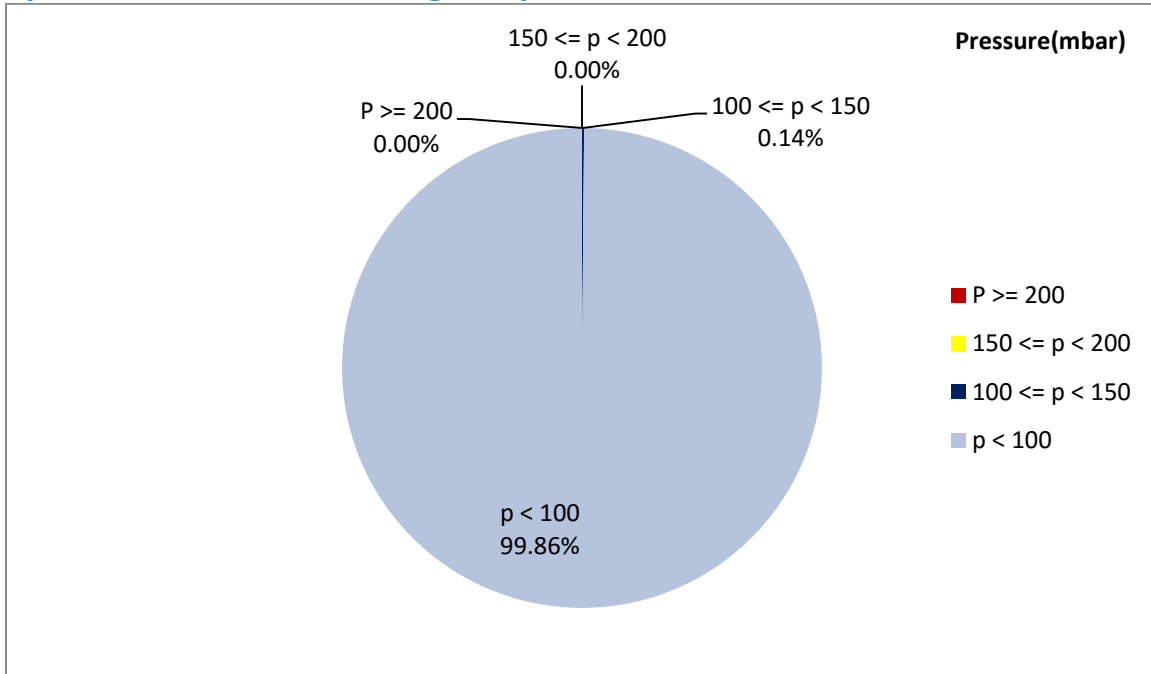

Figure 1- Pressure distribution over the working hours
- As depicted in figure 1, only 0.14% of working time pressure was above 100 mbar during this period.